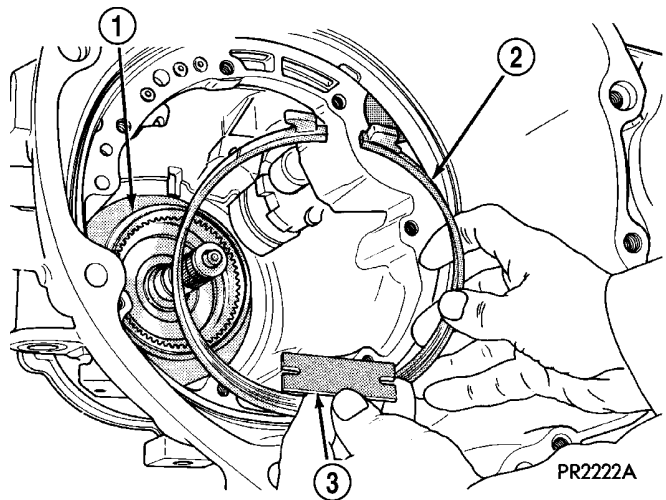

Fig. 46 Low/Reverse Band and Strut
(2) Install low/reverse band (Fig. 46). Do not install strut or adjust at this time.